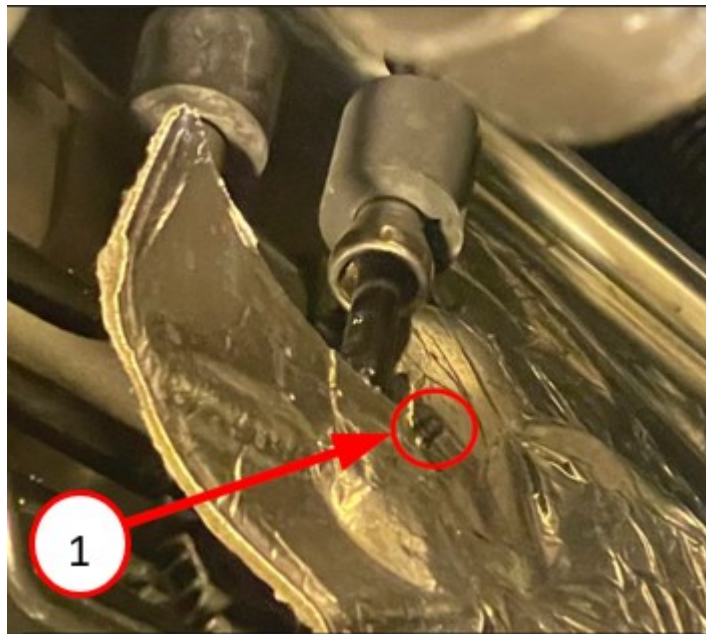

Fig. 7
8. Prop the fuel supply insulation shield away from the body. (Fig. 7)